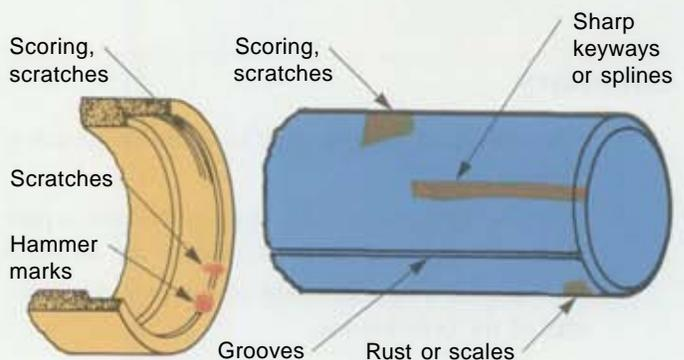

Figure 9-28. Always inspect seals and shafts for damage. Slight nicks or scratches could cause leakage. (Federal Mogul)
- Inspect shafts for wear and burrs, **Figure 9-28**. Look at the shaft closely where it contacts the seal. It should be smooth and flat. File off any burrs that may cut the new seal. A badly worn shaft will require polishing, a shaft sleeve repair kit, or replacement.
- Compare the old seal to the new seal. Hold them next to each other. Both the inside diameter (ID) and the outside diameter (OD) must be the same. To double-check the ID, slip the seal over the shaft. It should fit snugly to prevent leakage.